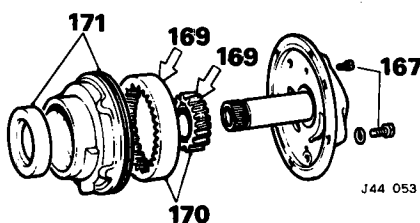

Fig. 52
- 167. Remove the bolts, screw and spring washers securing the pump adaptor to the pump body (Fig. 52).
- 169. Mark the mating surfaces of the gears with die marker. **DO NOT** use a punch or scriber (Fig. 52).
- 170. Remove the gears from the pump body (Fig. 52).
- 171. Remove and discard the 'O' ring and oil seal (Fig. 52).